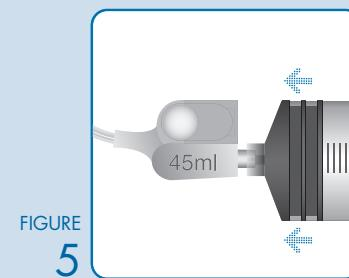

FIGURE 5
Coat the balloon end of the catheter with lubricant. Grasp the catheter and gently insert the balloon end through the anal sphincter until the balloon is beyond the external orifice and well inside the rectal vault. The finger may be removed or remain in place in the rectum during initial balloon inflation. (Figure 5)
2. Inflate the balloon with up to 45ml of fluid by slowly depressing the syringe plunger. With the insertion finger removed, the SIGNAL™ dome will indicate once the balloon has reached the optimal fill level for the anatomy. (Figure 5) There may be cases where the SIGNAL™ dome will not indicate if the space in the rectum is large. **Under no circumstances should the balloon be inflated with more than 45ml of fluid.**